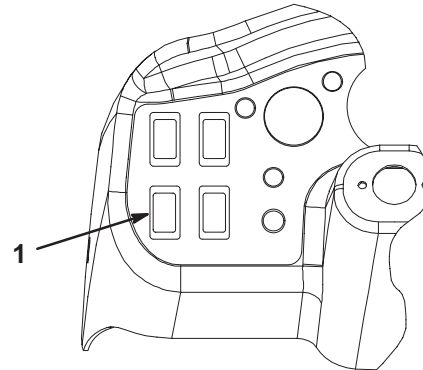

Figure 2
8. Remove one of the plugs from the switch mounting holes in the dash (Fig. 2).